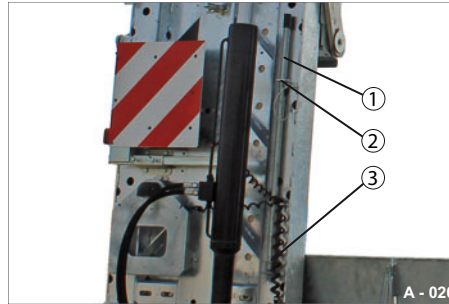
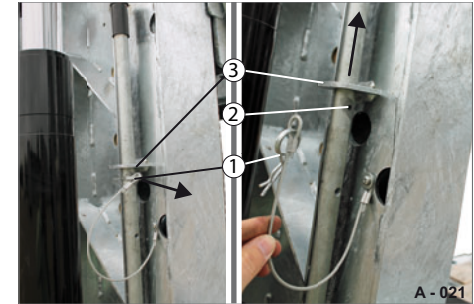
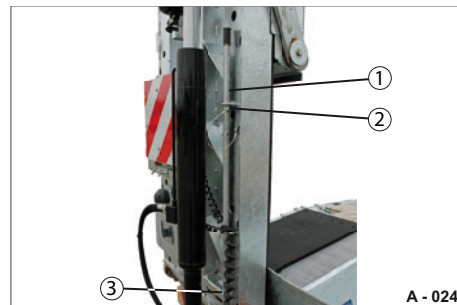

Fig. 20 Lever handle in drive position
Fig. 21 Removing lever handle
Fig. 24 Lever handle secured
- Remove the spring pin (Fig. 21/2) from the perforation.
- Pull the lever handle (Fig. 20/1) completely out of the upper holder (Fig. 21/3).
- Lead the lever handle (Fig. 24/1) through the upper holder.
- Plug the lever handle into the upper holder (Fig. 24/3).
- Plug the spring pin (Fig. 24/2) through the perforation (see Fig. 21).